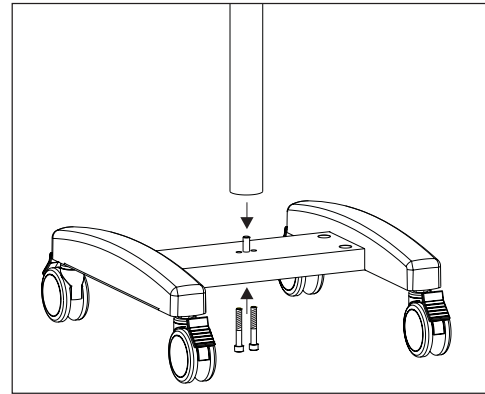
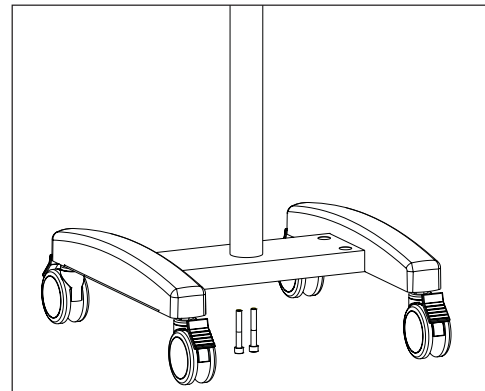

Fig. 2
Fig. 3
- 7.1 The base is installed by fixing the column on the base. Engage the column to the indexing screw on the base. See Fig. 2. Align the tapped hole of the upright in the screw seat, Hold the upright firmly and tight the allen screws from the bottom of the base. See Fig.3.